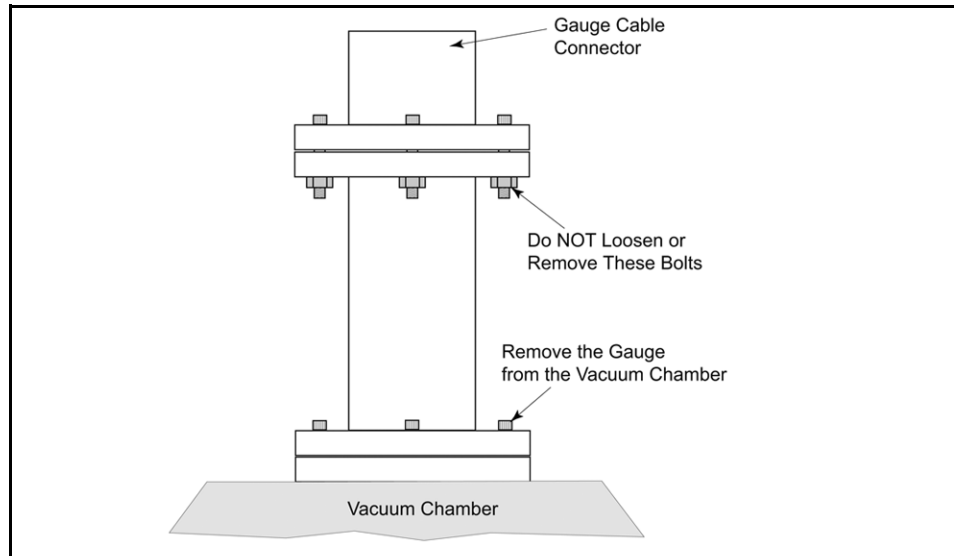

Figure 7-2 Remove the VQM MS Gauge from the Vacuum Chamber
3. Remove the MS Gauge from the vacuum chamber. See Figure 7-2.